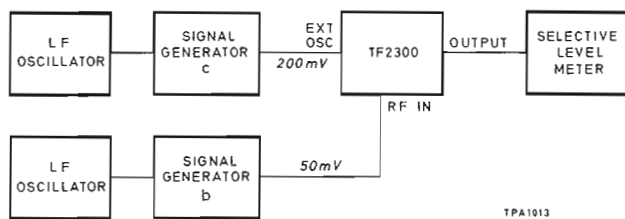

Fig. 4.5 F.M. distortion measurement
- (1) Set up the equipment as shown in Fig. 4.5. Adjust c to give a c.w. output of 200 mV at any convenient frequency  $f_{c1}$ . Adjust b to give a c.w. output of 50 mV at frequency ( $f_{c1} - 1.5$  Mc/s).
- (2) On the modulation meter set the Function switch to TUNE and the oscillator RANGE switch to EXT. Adjust the frequency of c for maximum reading on the TF 2300 meter and adjust the TF 2300 LEVEL control for a reading within the black arc.